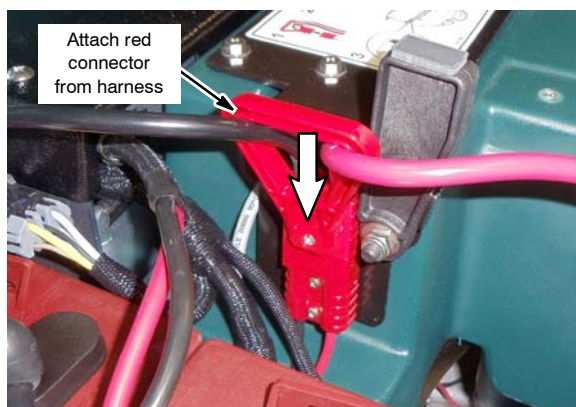

Fig. 1
2. Rotate support stand upward and attach the battery connector harness to the battery charger connector (Figure 1).